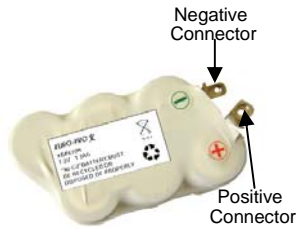

Fig. 7
5. Connect the terminals to the new battery pack taking care to connect the red lead (+) to the positive (larger) connector first and the black lead (-) to the negative (smaller) connector second. (Fig. 7) Place the new battery into the battery compartment.